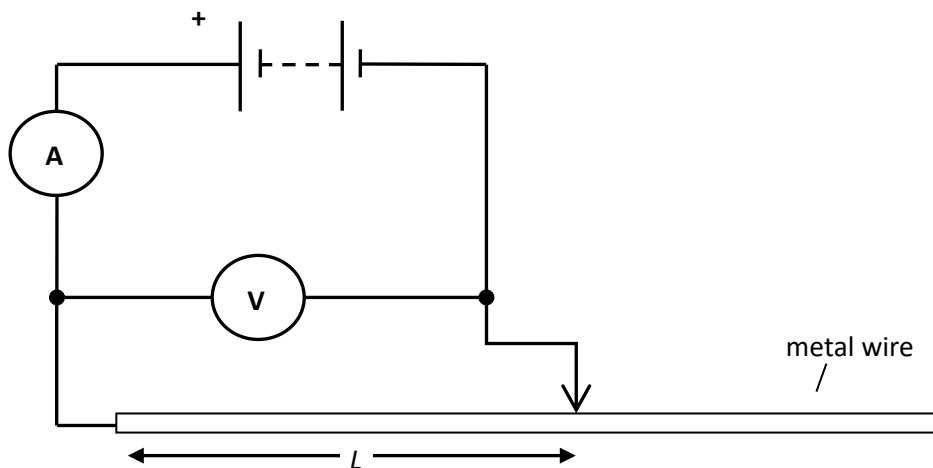

Fig. 1
4. Carefully drop a ball bearing into the centre of the liquid and watch it fall as shown in Fig. 1. Establish how far the ball bearing needs to travel in order to reach terminal (constant) velocity.
1. Set up the circuit shown below in Fig.1, so that the d.c. supply is in series with the metal wire. The length of wire in the circuit is adjusted and connected into the circuit using crocodile clips.